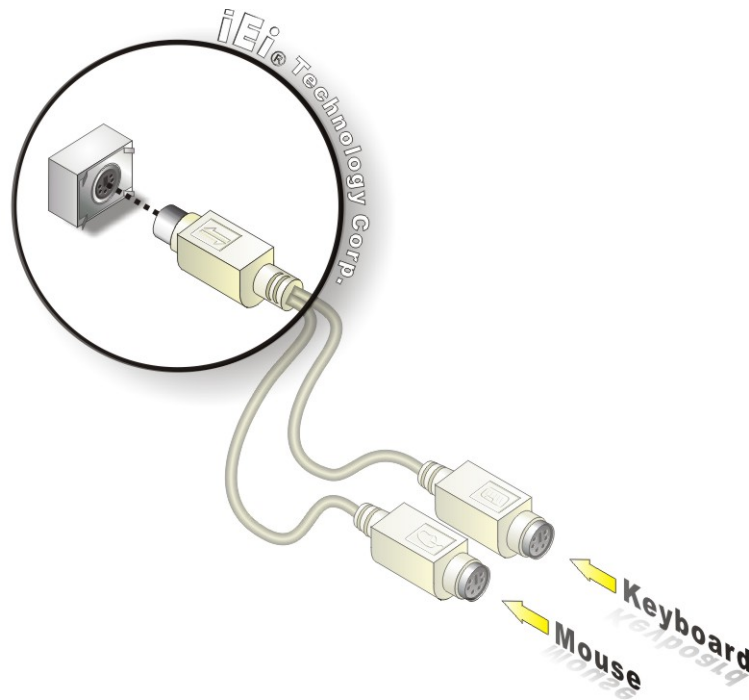

Figure 5-15: PS/2 Connector
- Step 3: Insert the PS/2 connector** Once the connector is properly aligned, insert the PS/2 connector from the keyboard/mouse Y cable into the PS/2 connector on the NANO-LX. See **Figure 5-15**.